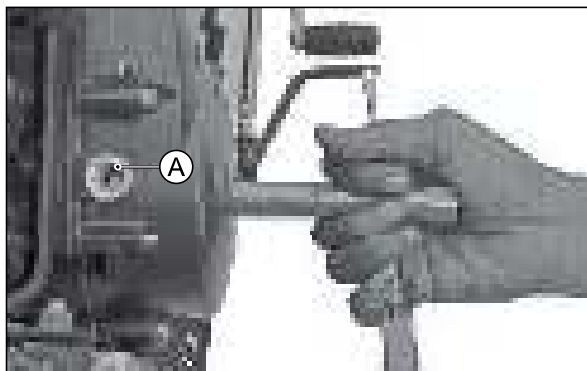

Fig. 3.79
- Ensure that the transmission is in neutral and align the TDC mark (A) on rotor assembly with center of the inspection hole provided in the cover magneto by rotating the rotor assembly. (Fig. 3.79)